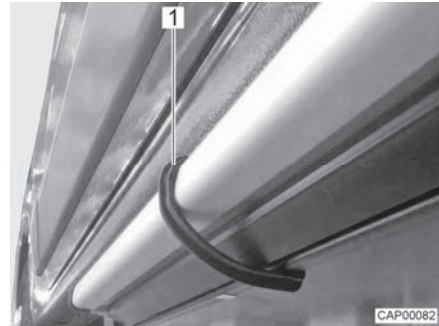

Fig. 3 Fixing clamp (entrance step)
- Secure the entrance step against sliding out using the included fixing clamp (Fig. 3,1).